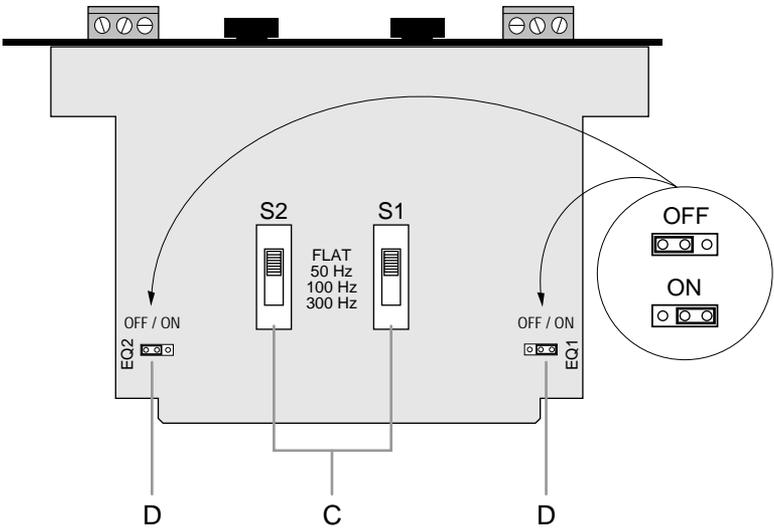
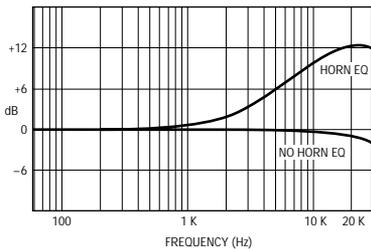
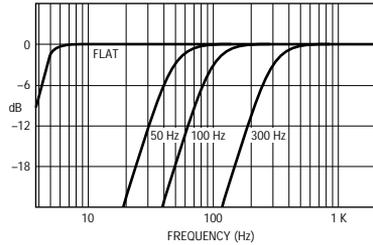

Fig. 1.2 Bottom View
Fig. 2.1 Constant-Directivity Horn Equalization (with RFI filter)
Fig. 2.2 Subsonic/Bass Filter Settings
A 4-position slide switch for each channel (Figure 1.2) controls the subsonic/bass filter. This filter is an 18 dB/octave Butterworth high-pass filter which can be selected to attenuate frequencies below 50 Hz, 100 Hz or 300 Hz. It can also be switched off (FLAT). The switch positions are labelled on the circuit board between the two switches.
A jumper is provided for each channel (Figure 1.2) to enable/disable the constant-directivity horn equalization. The jumper for channel 1 (EQ1) is shown in the ON position while the channel 2 jumper (EQ2) is shown in the OFF position. This equalization circuit is a 6 dB/octave shelving network with a 3 dB rise at 3.2 kHz and a peak boost of 12.5 dB at 24 kHz.
1. Adjust the constant-directivity equalization jumper of each channel to be ON or OFF (see Figure 1.2). Figure 2.1 shows the frequency response through the *P.I.P.-ATNB* when this filter is on.
2. Select the desired position for the Subsonic/Bass filter switch for each channel. Sliding the switch to the FLAT position switches off the filter. The switch positions are identified on the circuit board between the two switches (see Figure 1.2). Figure 2.2 shows the frequency response through the *P.I.P.-ATNB* when this fil-
and horn equalization off. High-pass (subsonic/bass) filter has selectable -3 dB roll-off points of 50, 100 or 300 Hz (see Figure 2.2). Constant-directivity horn equalization network has 3 dB rise at 3.2 kHz with 12.5 dB peak at 24 kHz (see Figure 2.1). Both these filters can be switched off if desired.